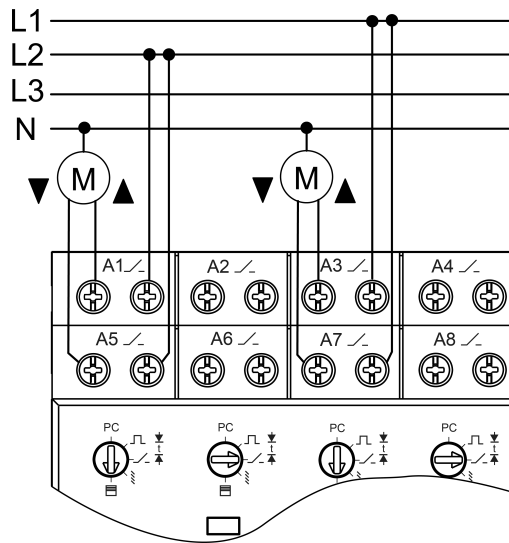

Figure 5: Connection example of Venetian blind loads
- Connect loads as shown in the connection example of Venetian blind loads (Figure 5).